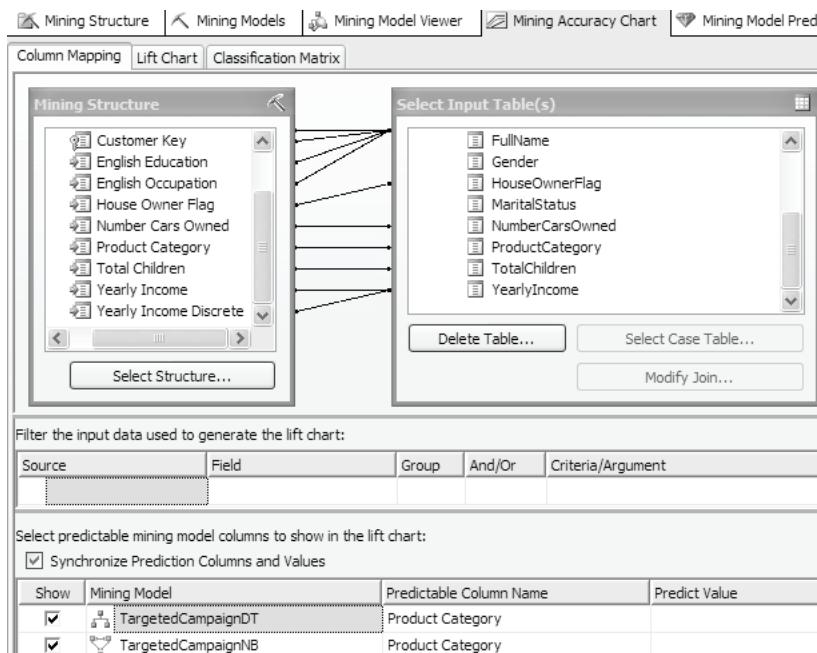

Figure 7.23 Use the Column Mapping tab to bind the columns of the mining structure to the columns of the test dataset.
1. Click on the Mining Accuracy Chart tab. The Mining Accuracy Chart opens and its Column Mapping tab is selected (Figure 7.23). You can use the Column Mapping tab to specify an input table that holds the representative dataset that you want to test.